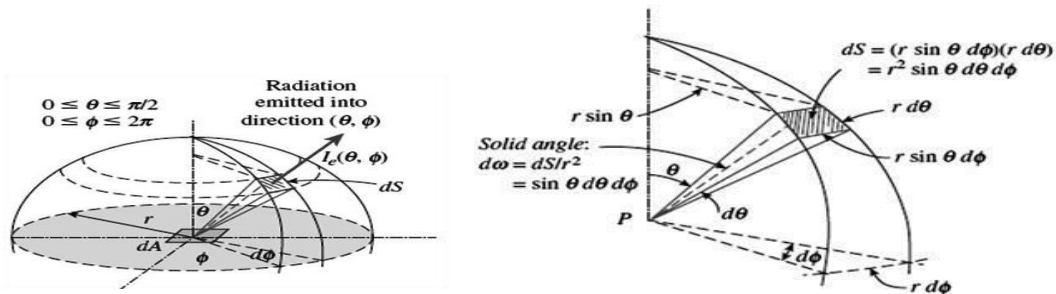

Fig. 5.17 Emission of radiation from differential element dA into hemispherical shape
- Consider the emission of radiation by a differential area element dA of a surface, as shown in Figure 5.17. Radiation is emitted in all directions into the hemispherical space.